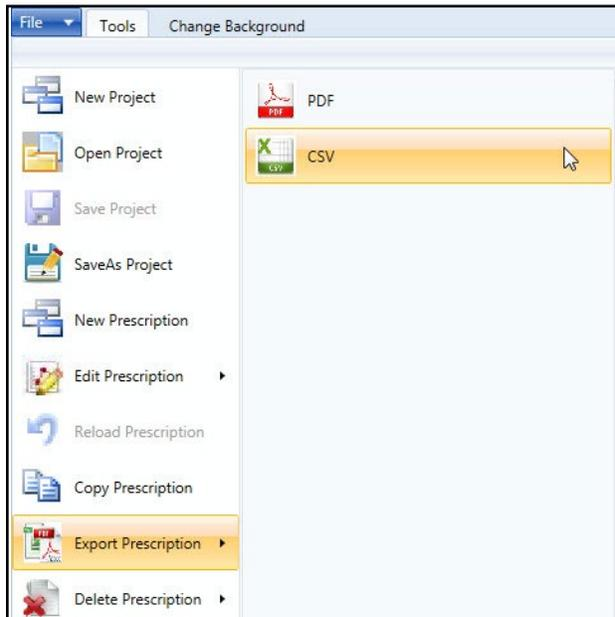

Figure 36-1 Export to CSV
1. Select **Export Prescription** in the VRI drop-down menu and click on **CSV**. See Figure 36-1. The Export screen appears.